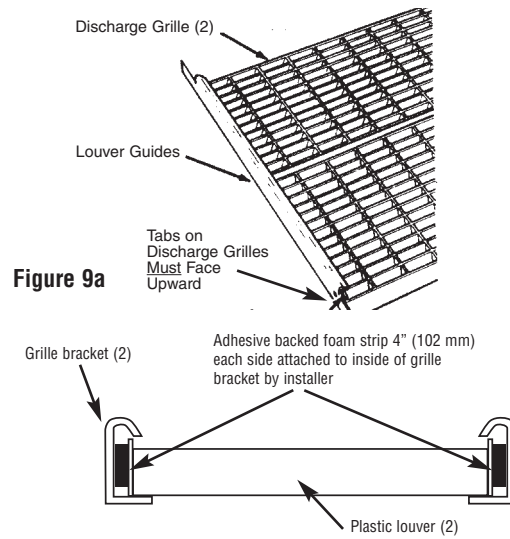

Figure 9a
4. Fit the two louver guides over the two discharge grilles as shown in Figure 9a.